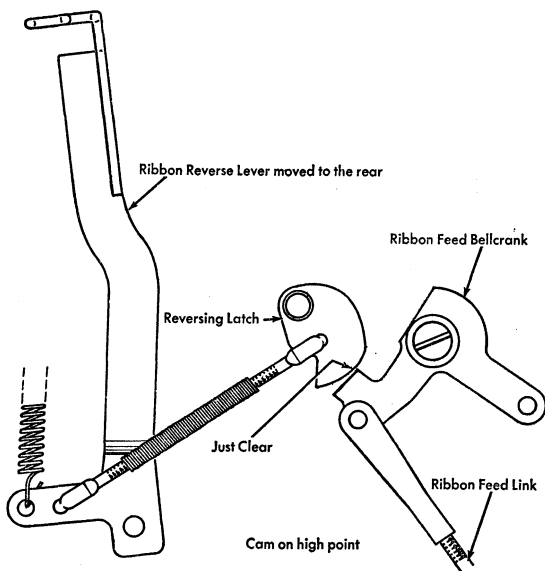

Figure 59. Ribbon Feed Link Adjustment
- b. Adjust the feed link on the feeding side so that the reversing latch will just clear the ribbon feed bell-crank as the latch is moved to the rear (Figure 59).
5. **SPRING LINKS.** Adjust these so that, with the power on and the ribbon feeding, the ribbon will reverse when the reversing lever is moved $3/8''$ to $1/2''$ toward the rear (Figure 59).